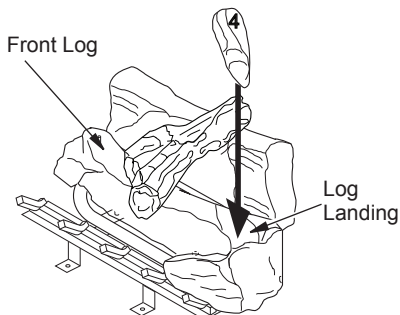

Figure 44 - Installing Log No. 4
- Place log #4 (right log) onto the landing on right side of front log as shown in Figure 44.